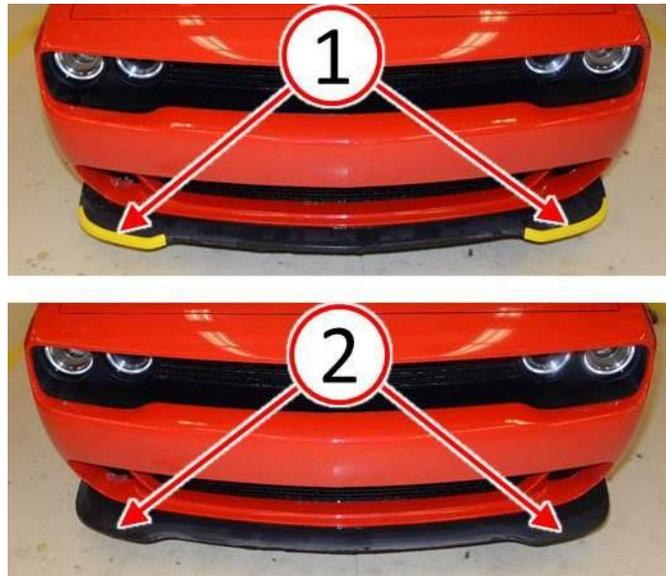

Fig. 1 Inspect Front Air Dam For Shipping Covers
Bright yellow shipping covers (1) have been added during vehicle production to prevent/lessen damage to the front fascia air dam during vehicle transport (Fig. 1).
If the bright yellow shipping covers are not installed on the front fascia air dam (2) (Fig. 1), this bulletin does not apply. No action is required.